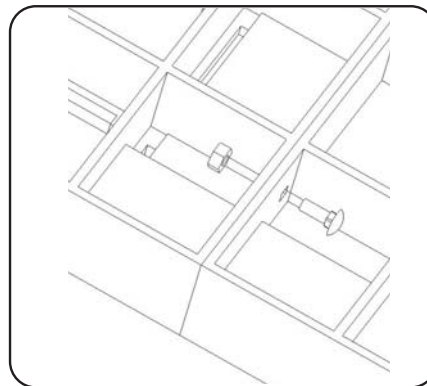

Figure 3
Snap the 2 main floors together and fasten them with the 1/4 x 20 carriage bolt (item 2) and the 1/4 x 20 hex nut (item 1). Do this in 6 places. See figure 3 for detail.